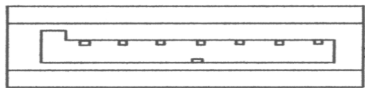

Figure 2A: “L shaped” connector
- The original Serial ATA (Type A SATA) connectors have an L shaped opening. This type of connector is **not** used on the back of the miniSwap/ES enclosure. See Figure 2A.